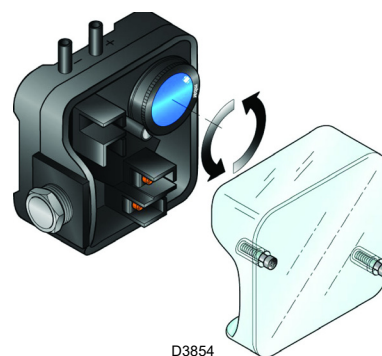

Fig. 31
- Adjust the air pressure switch (Fig. 31) to the start of the scale.
Adjust the air pressure switch after performing all other burner adjustments with the air pressure switch set to the start of the scale (Fig. 31).